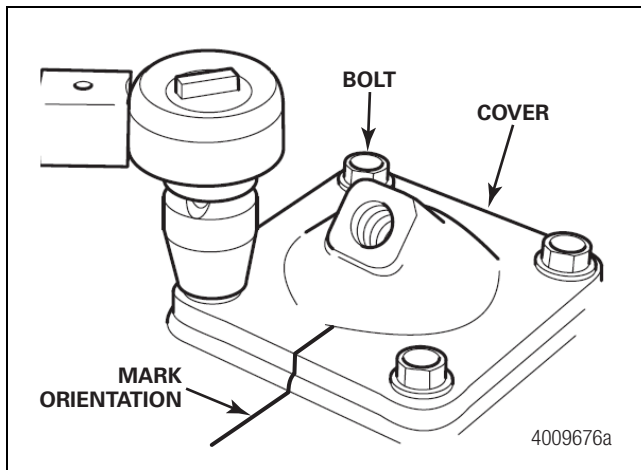

Figure 6.6
5. Remove the bolts from the DCDL cover and remove the cover from the axle housing. Figure 6.6.